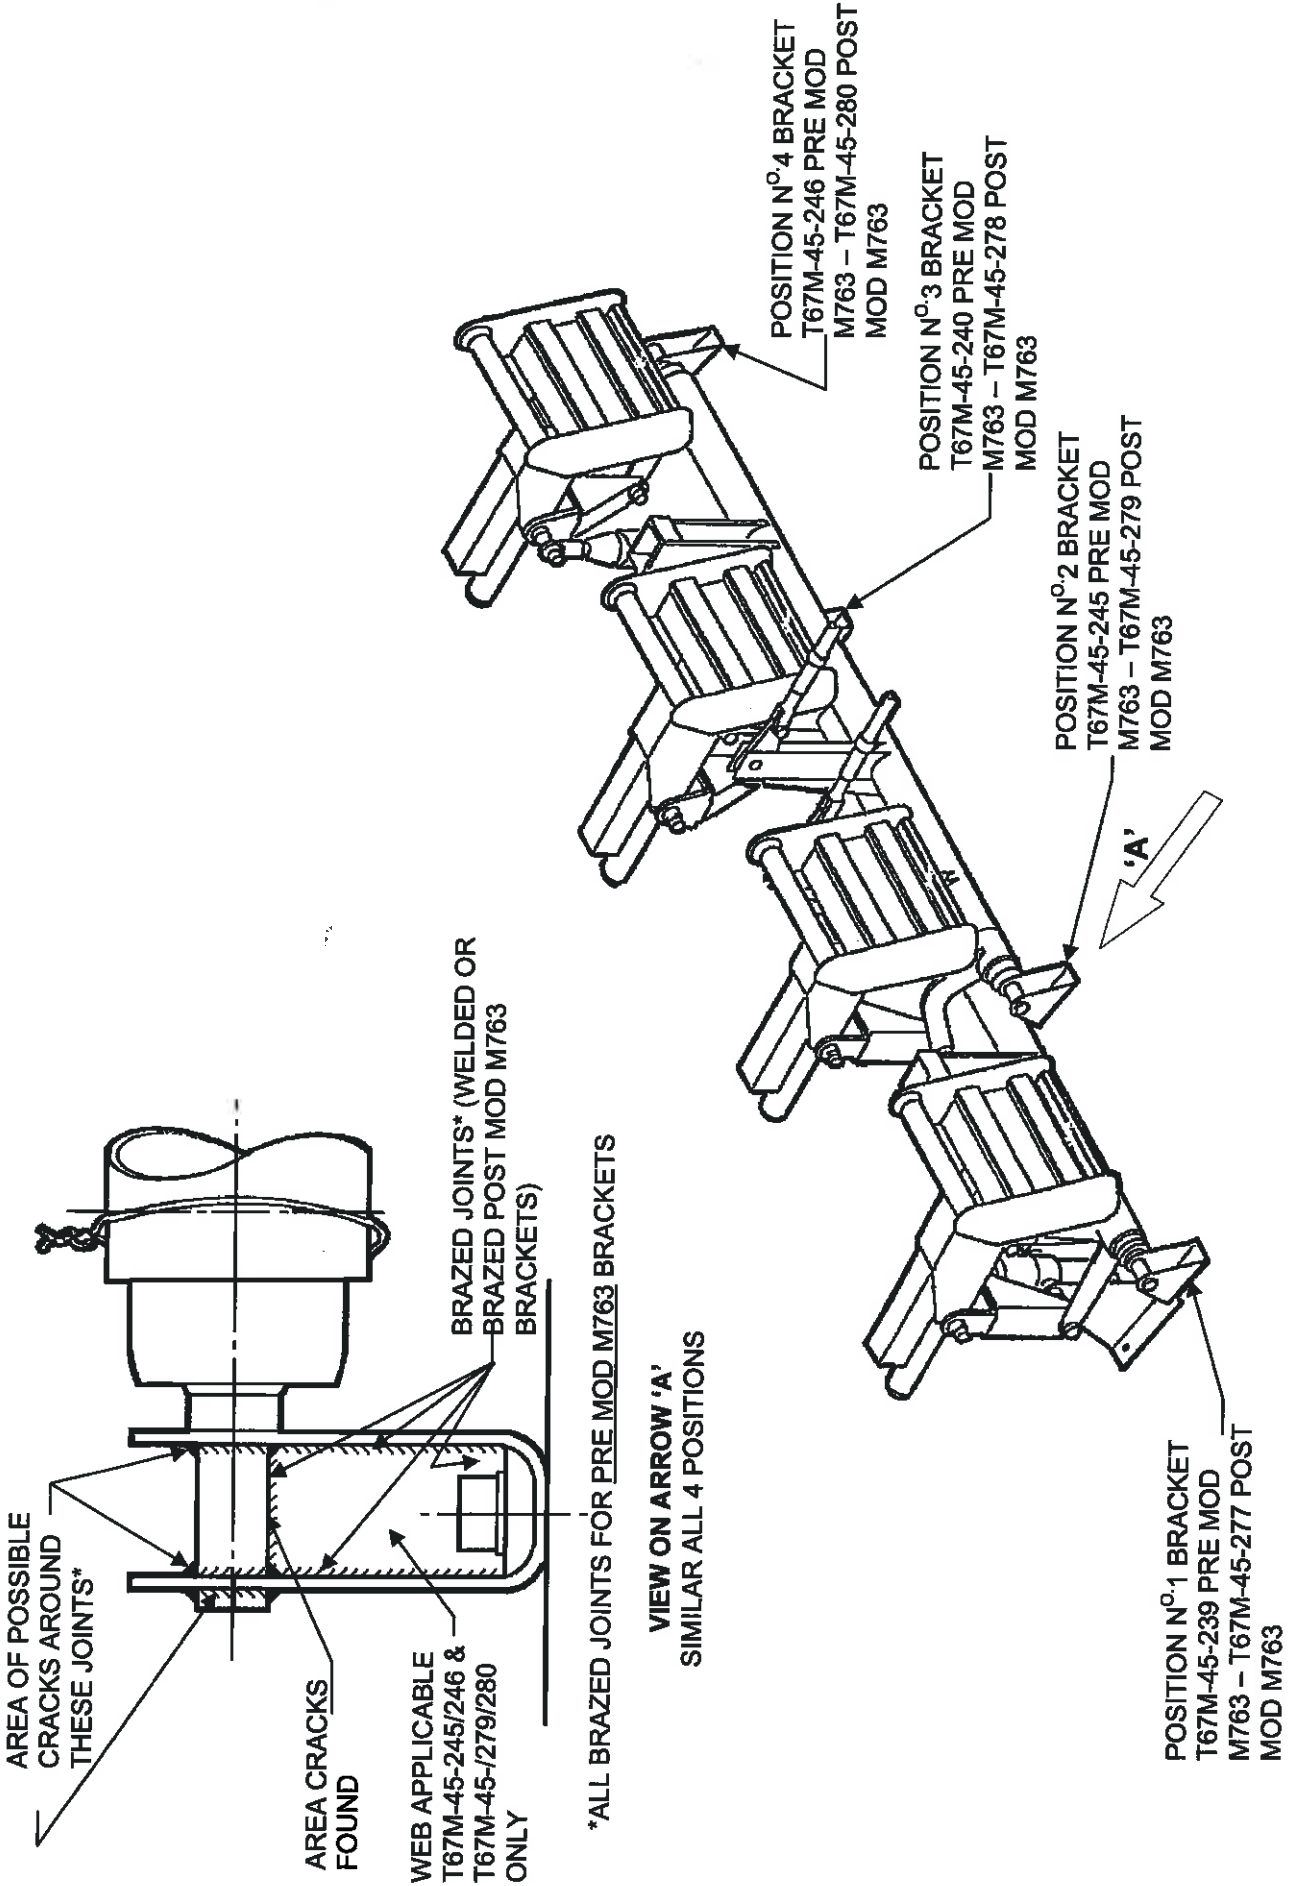

FIGURE 1
1. Gain access to rudder bar support brackets, refer to Figure 1.
5. Check brackets T67M-45-277/278/279 & 280 in stores IAW Step 2, if entirely brazed and if brackets are intended for use on the T67M260 series and T67M200 works numbers 2264 & 2265 then these items are to be returned to SAACL. If these items are brazed and are intended for use on the T67B, T67C series, T67M (excluding works no. 1999), T67M-MkII, T67M200, (excluding works numbers 2264 & 2265) series Firefly then re-identify as T67M-45-239/240/245 & 246, refer Figure 1
6. Further to actions 2, 3 and 4 inspect both welded and brazed joints for cracking. If cracks found then replace bracket with new item. Refer View on Arrow 'A' Figure 1.
Note: reference T67B, T67C series, T67M (excluding works no. 1999), T67M-MkII, T67M200, (excluding works numbers 2264 & 2265), if brazed bracket is cracked then all four brazed brackets are to be replaced with Post Mod M763 brackets, i.e. T67M-45-277/278/279 & 280, refer Figure 1.